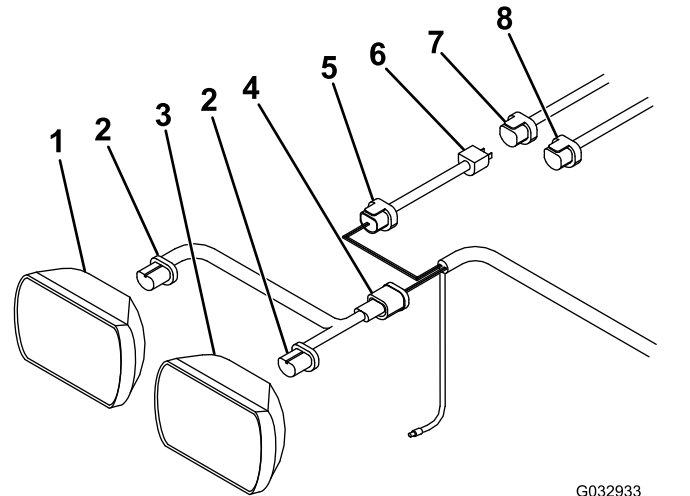

Figure 24
1. Disconnect the wire harness plugs from the back of the left vehicle headlights (Figure 24).
2. Connect the 2 ends of the headlight adapter to the back of the left vehicle headlights (Figure 24).
3. Connect the black plug from the headlight adapter to the long wire harness (Figure 24).
4. Connect the blue plug from the headlight adapter to the blue plug on the long wire harness (Figure 24).
5. Connect the free end of the headlight adapter to the previously disconnected low-beam plug on the vehicle wire harness (Figure 24).
6. Grease, tuck, and secure the previously disconnected high-beam plug on the vehicle wire harness (Figure 24).